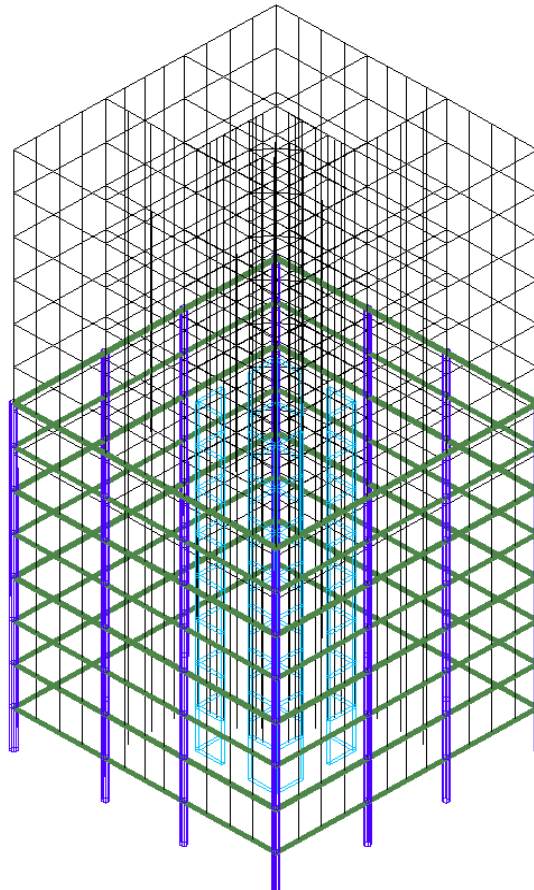

Figure 19 Builder Model with Imported ETABS Gravity Loads
- In the main user interface, the loads will appear as shown in **FIGURE 19**. Note the loads selected are those imported from ETABS. If other loads were defined within Builder, they also would be available for selection.